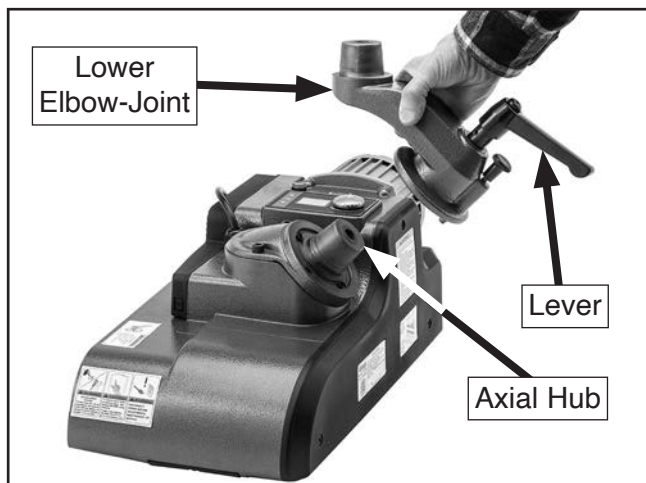

Figure 12. Example of attaching lower elbow-joint.
6. Thread lower elbow-joint lever all the way into threads of axial hub on power feeder (see **Figure 12**).